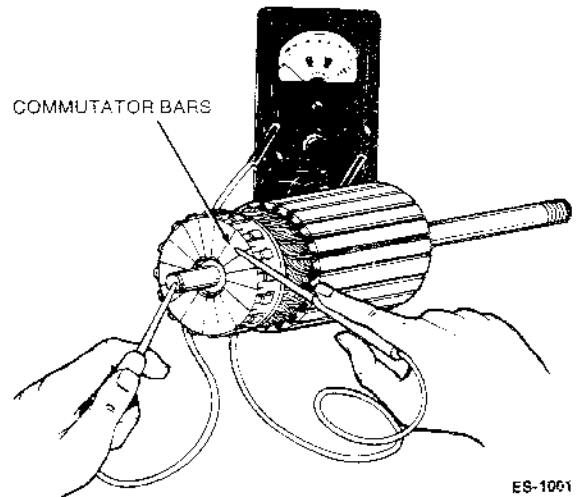

FIGURE 19. TESTING ARMATURE FOR GROUNDS
**Testing Armature for Grounds:** Touch armature shaft or core and the end of each commutator bar with a pair of ohmmeter leads. If the ohmmeter reading is low, it indicates a grounded armature. Replace grounded armature. See Figure 19.